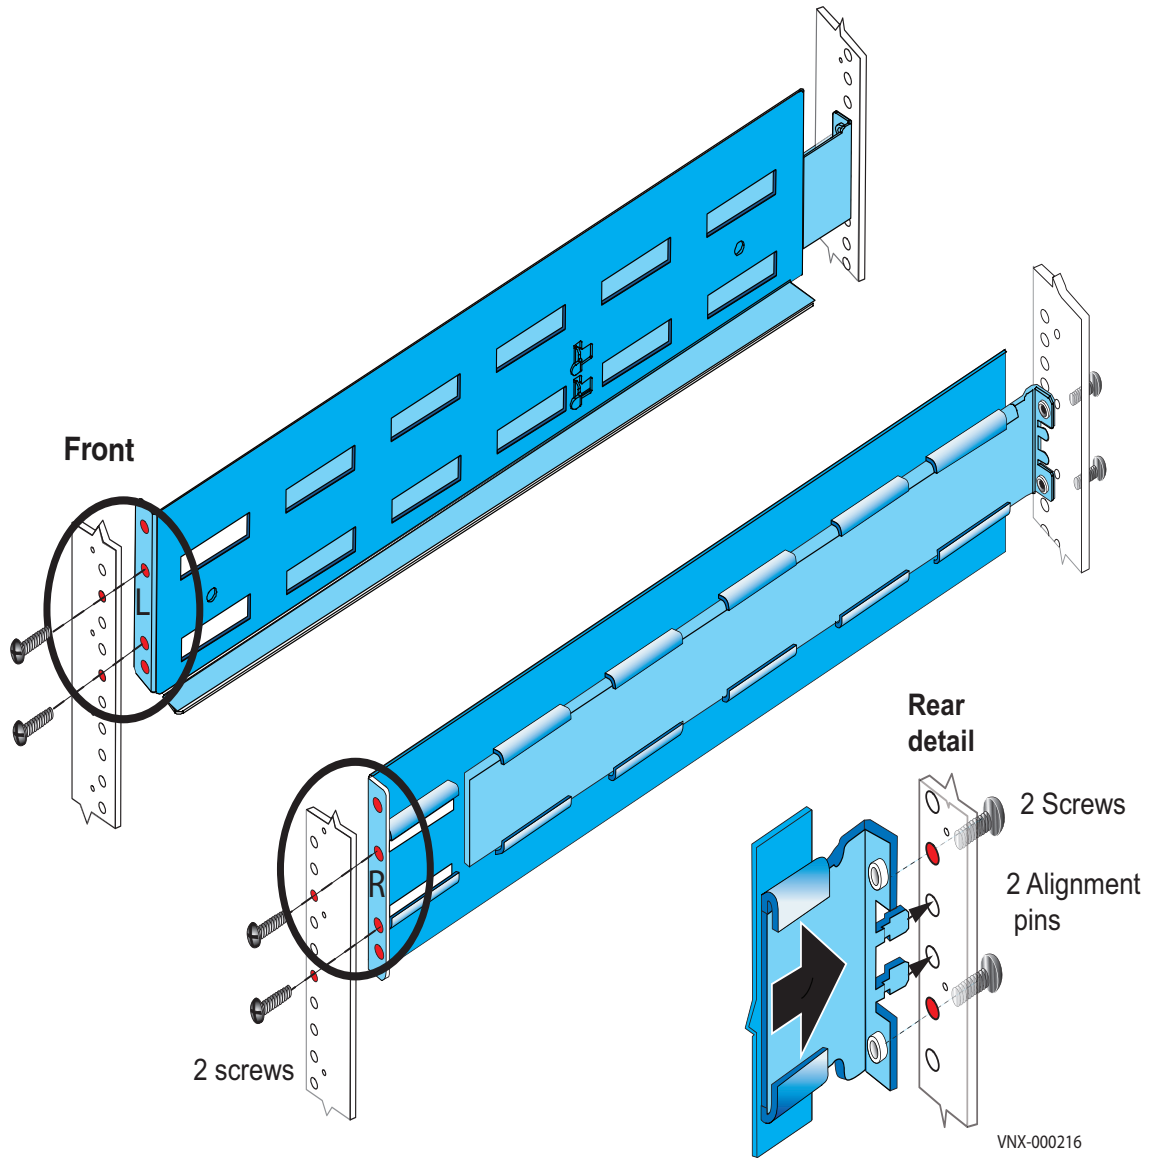

Figure 40 Installing 3U DAE rails
1. Insert the adjustable rail slide and seat both alignment pins into the rear channel of your cabinet as shown in Figure 40 on page 50.